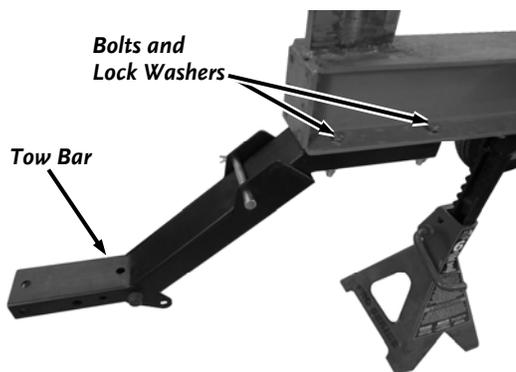

Figure 3
4. Install the Tow Bar to the end of the Beam with four Bolts and Lock Washers (from the product package) using two 9/16" Wrenches (**Figure 3**).